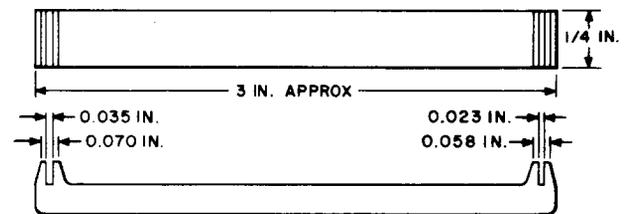

Fig. 12—R-3159 Adjuster Tool
2.14 R-3159: The R-3159 adjuster tool (Fig. 12) is used for adjusting normal post springs on the 197-type switches.